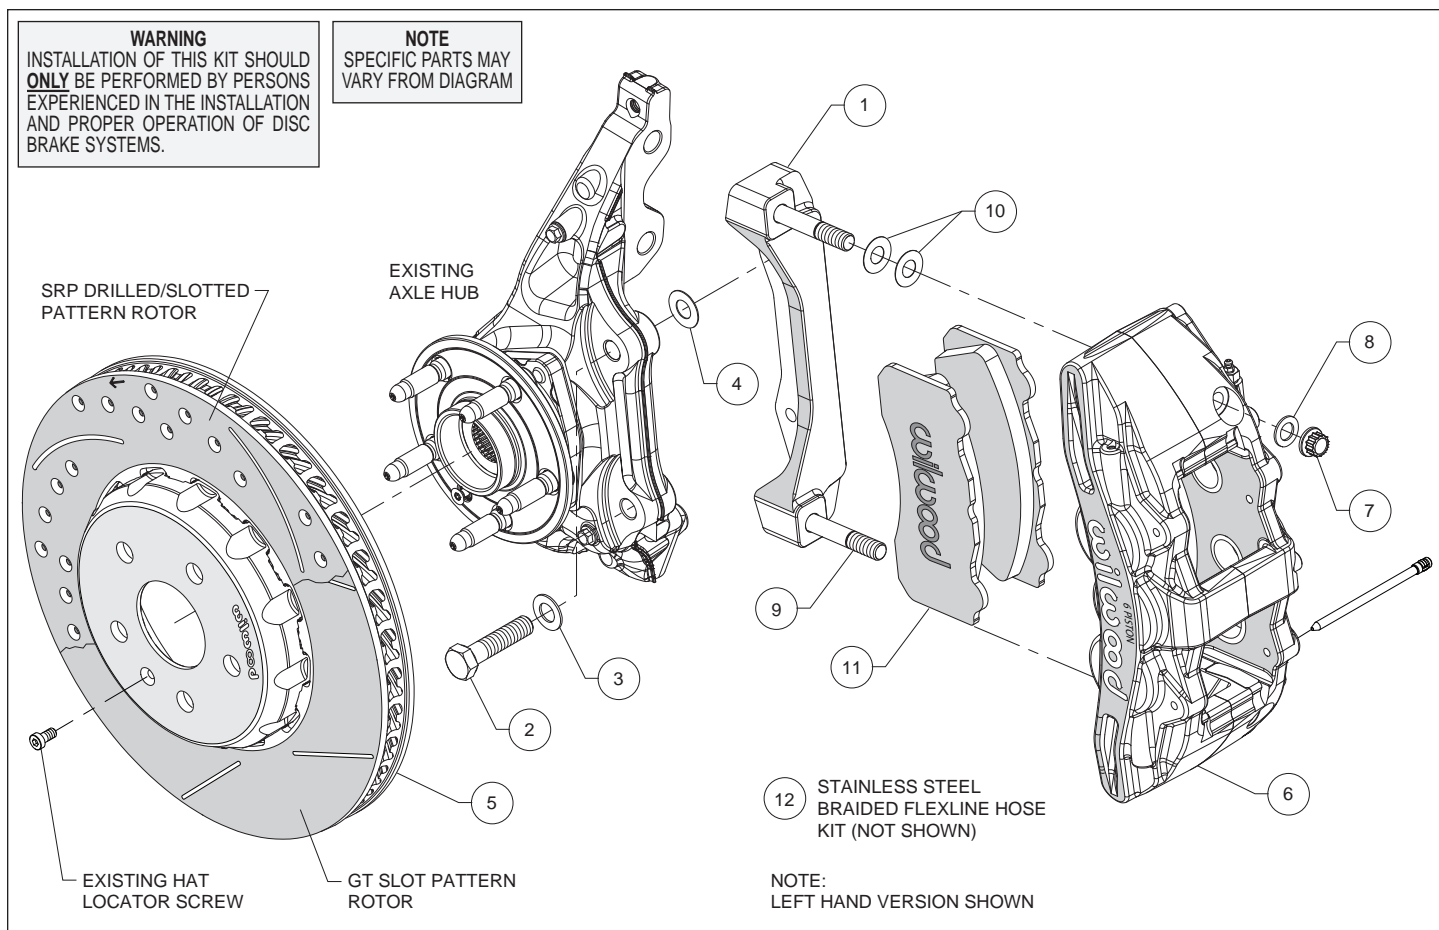

Figure 1. Typical Installation Configuration
**Assembly Instructions** (numbers in parenthesis refer to the parts list and Figure 1 on the preceding pages):
- The caliper mount bracket (1) should initially be installed with clean, dry threads on the mounting bolts. Orient the bracket, as shown in Figure 1 and Photo 1, and install using bolts (2) and washers (3). Initially place one .029" thick shim (4) on each bolt between the bracket and upright, Figure 1. Temporarily tighten the mounting bolts. **NOTE:** *The bracket must fit squarely against the mount bosses on the upright.* Inspect for interference from casting irregularities, machining ridges, burrs, etc. Later, after the caliper alignment has been checked, the mount bolts will be secured using red *Loctite*® 271.
- NOTE:** *This kit contains distinct right and left hand calipers that must be mounted in a specific direction, as described below.* Lubricate the caliper mounting studs (9) with lightweight oil. Initially place two .015" thick shims (10) on each stud between the caliper and the bracket, as shown in Figure 1 and Photo 3. Mount the caliper (6) onto the bracket (1) using lock nuts (7) and washers (8), Figure 1. Temporarily tighten the lock nuts. Ensure that the caliper is mounted so the largest pistons are at the rotor exit end of the caliper, in relation to the direction of the rotor. View the rotor through the top opening of the caliper. The rotor should be centered in the caliper, Photo 4. If not, adjust by adding or subtracting shims (4) between the bracket and the upright. Always use the same amount of shims on each of the two mounting bolts. Once the caliper alignment is correct, remove the bracket mounting bolts (2) one at a time, apply red *Loctite*® 271 to the threads, and torque to 77 ft-lbs.
- Remove the two pad retaining pins from the caliper (6) by pushing out the pins from the tapered end using a blunt instrument. Insert the brake pads (11) into the caliper from the bottom, Figure 1 and Photo 5. With the friction material facing the rotor, secure the brake pads in place with the pad retaining pins, Photo 6. Reinstall the caliper onto the caliper mounting bracket and temporarily tighten the lock nuts (7). Check that the top of the brake pad is flush with the outside diameter of the rotor, Photo 7. If not, adjust by adding or subtracting shims (10) between the caliper and the bracket. After the caliper pad height is set, torque the caliper lock nuts (7) to 65 ft-lb.